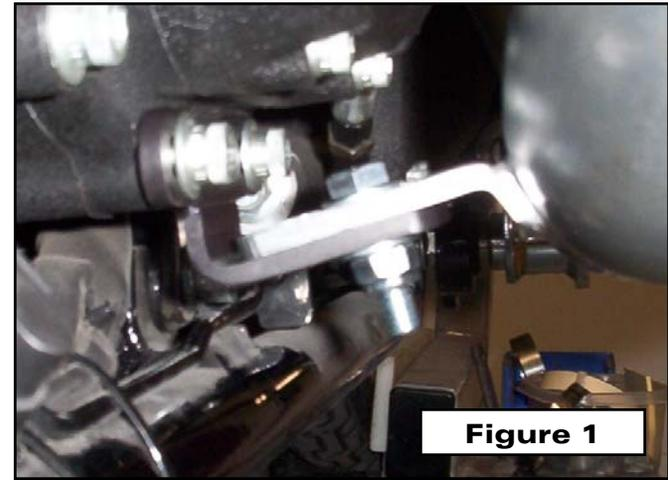

Figure 1
2. Remove the bottom two bolts from the transmission cover. Install the new mounting bracket using the 1 ¼" long socket head bolts and flat washers supplied. Leave both bolts loose so that the bracket can slide back and forth freely. **(See Figure 1)**
4. Install the head pipe using the stock flange nuts. **DO NOT TIGHTEN**. Align the bracket on the pipe on top of the transmission mount bracket and install the 5/16 bolt and flat washer through the slot from the top. Install a flat washer and lock nut on the bolt. **DO NOT TIGHTEN. (See Figure 1)**